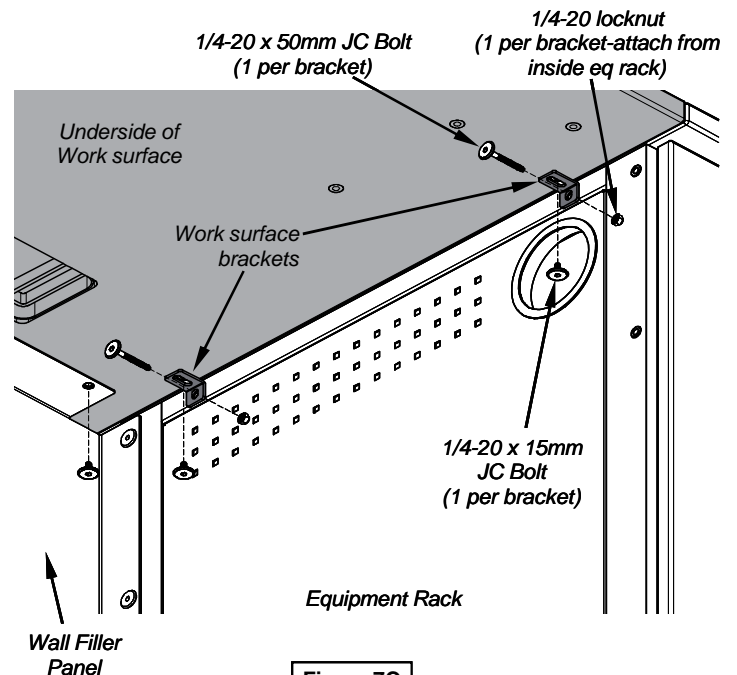

Figure 7C
- Attach each work surface bracket to the equipment rack with (1) 1/4-20 x 50mm JC bolt and (1) 1/4-20 locknut (attached from inside eq rack). (The slotted side of the bracket will attach to the work surface.) Do not tighten completely. **Figure 7C.**